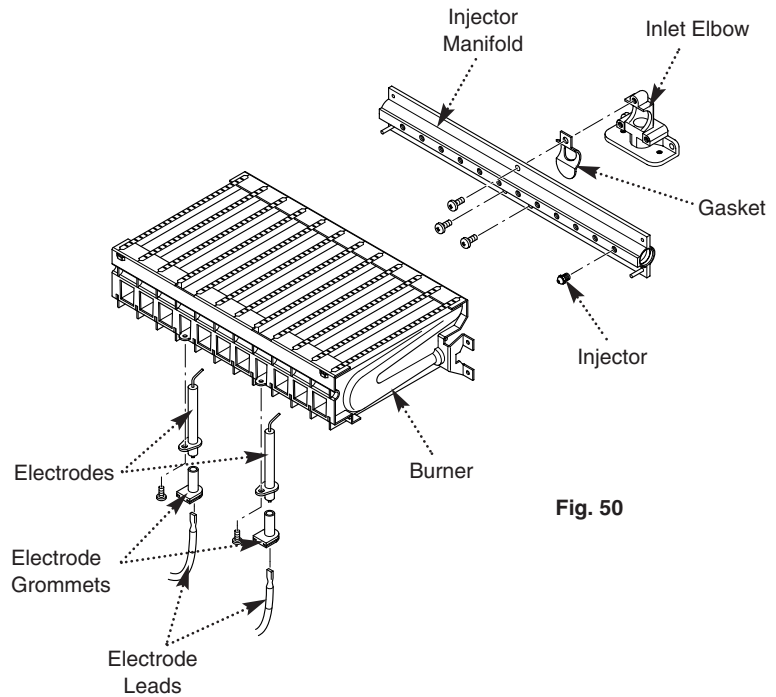

Fig. 50
12.5 Injectors (Fig. 50)
12.6 Electrodes (Fig. 50)